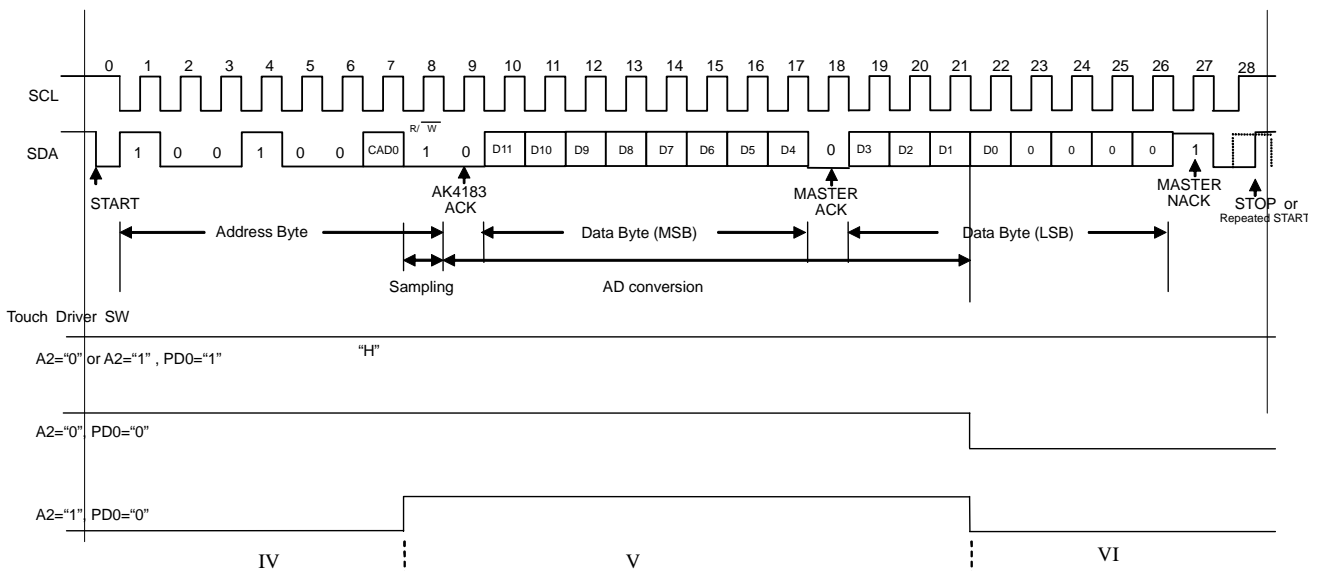

Figure 14 Read data Sequence
■ READ Operation Sequence (Figure 14)
The clock number under the write and the read operation refer to Figure 13 and Figure 14.